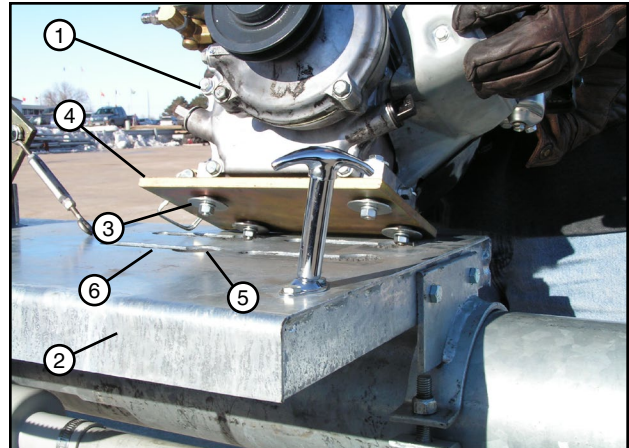

Figure 23-1 1. Engine 4. Engine Mount
1. Lift engine onto direct drive base mount, align retaining washers on direct drive engine mount with holes in engine mounting slot. See figure 23-1.